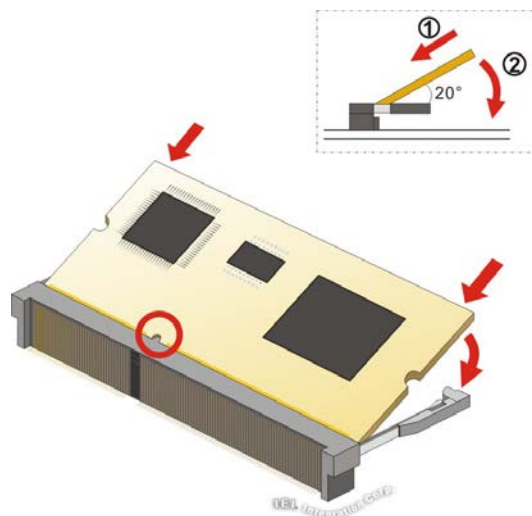

Figure 4-12: iRIS Module Installation
To install the iRIS-2400 module, please follow the steps below and refer to **Figure 4-12**.
- Step 3:** Insert the iRIS-2400 module. Push the module in at a 20° angle (**Figure 4-12**).
- Step 4:** Seat the iRIS-2400 module. Gently push downwards and the arms clip into place (**Figure 4-12**).